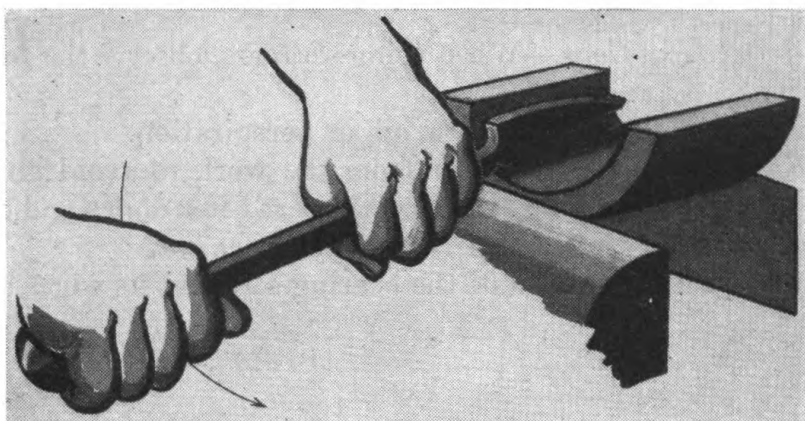

FIGURE 75.—Using bearing scraper.
(2) *Bearing scrapers.*—It often becomes necessary, especially under emergency conditions, for the mechanic to fit or scrape in a bearing. Figure 75 illustrates the correct way to hold the bearing scraper; use a light, twisting motion of the hand that holds the handle, while the other hand steadies the tool. The cutting edge of the bearing